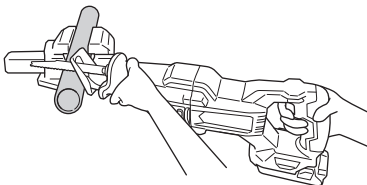

Fig. 19
(1) Fasten a workpiece firmly before operation. (Fig. 19)